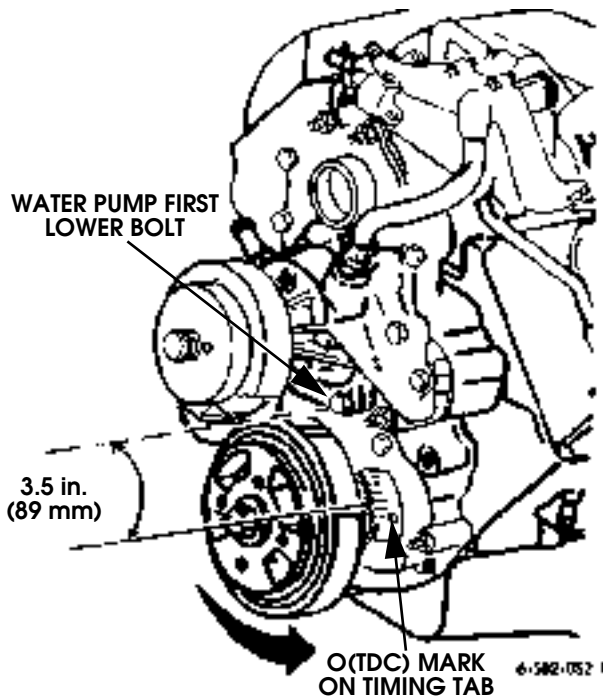

Figure 2-180: Crankshaft Index Position for Rocker Arm Installation
- b. Rotate crankshaft counterclockwise, and align mark on torsional damper with "O" mark on front cover timing tab (Figure 2-180).